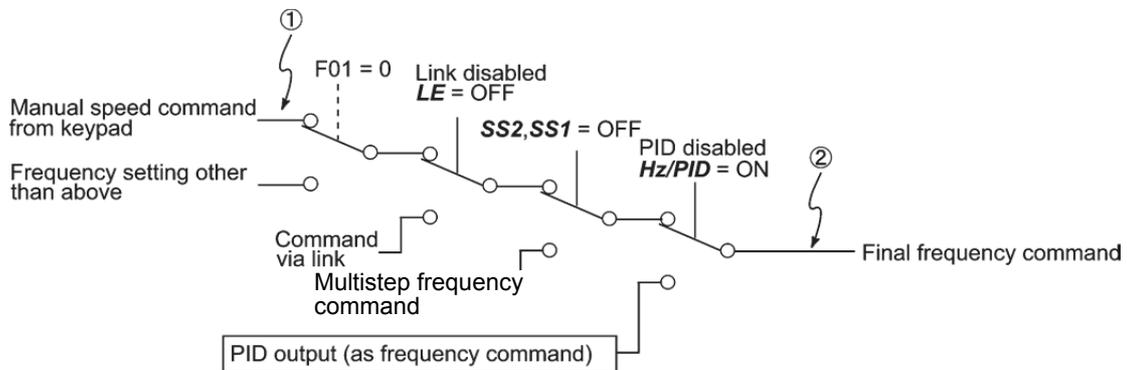

Figure 3.3-1
Table 3.3-4 lists the combinations of the commands. Figure 3.3-1 illustrates how the manual speed command ① entered via the keypad is translated to the final frequency command ②.